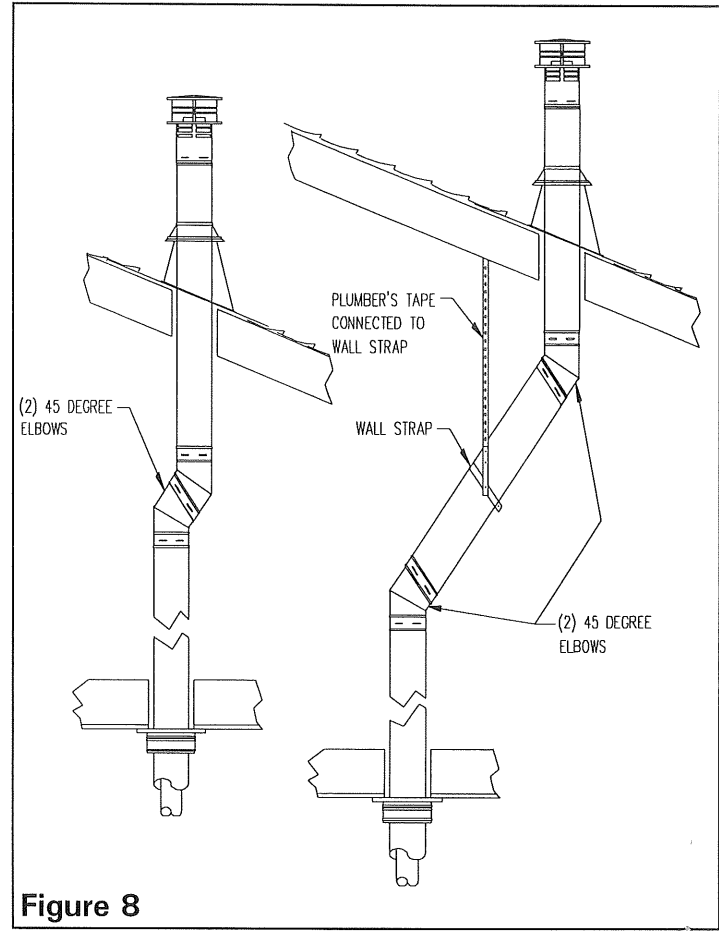

Figure 8
- 4) If an offset is necessary in the attic to avoid obstruction, it is important to support the vent pipe every 3 feet, to avoid excessive stress on the elbows, and possible separation see figure 8.